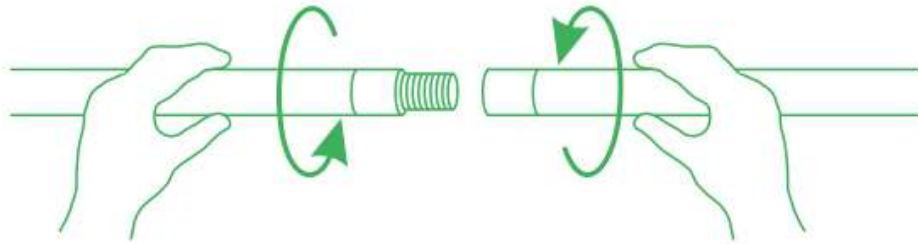

Figure 3-19
- Step 2 Tighten the two image transmission antenna firmly, insert it into the tripod and lock it firmly, as shown in Figure 3-19.